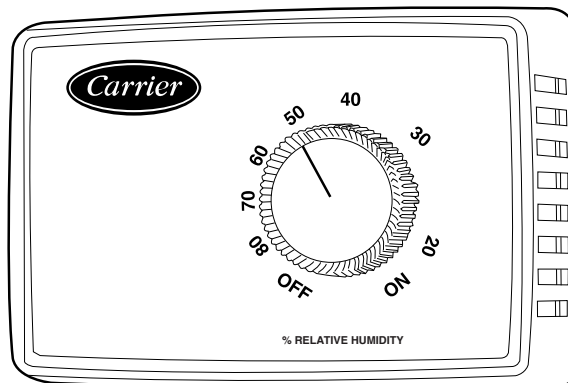
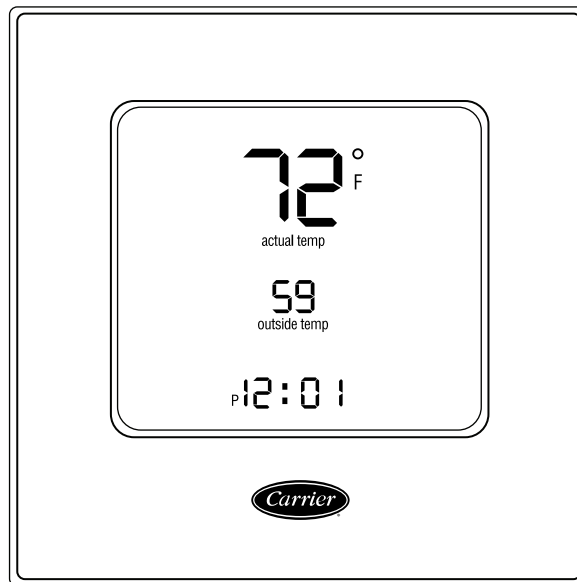

Fig. 50 — Accessory Field-Installed Humidistat
Fig. 51 — Edge Pro Thermidstat
The Humidi-MiZer dehumidification system requires a field-supplied and installed space relative humidity control device. This device may be a separate humidistat control (contact closes on rise in space RH above control setpoint) (see Fig. 50) or a combination thermostat-humidistat control device such as Carrier's Edge® Pro Thermidstat (see Fig. 51) with isolated contact set for dehumidification control. The humidistat is normally used in applications where a temperature control is already provided (units with PremierLink™ control).
2. Feed wires through the raceway built into the corner post (see Fig. 50) to the 24-v barrier located on the left side of the control box. The raceway provides the UL-required clearance between high-voltage and low-voltage wiring.